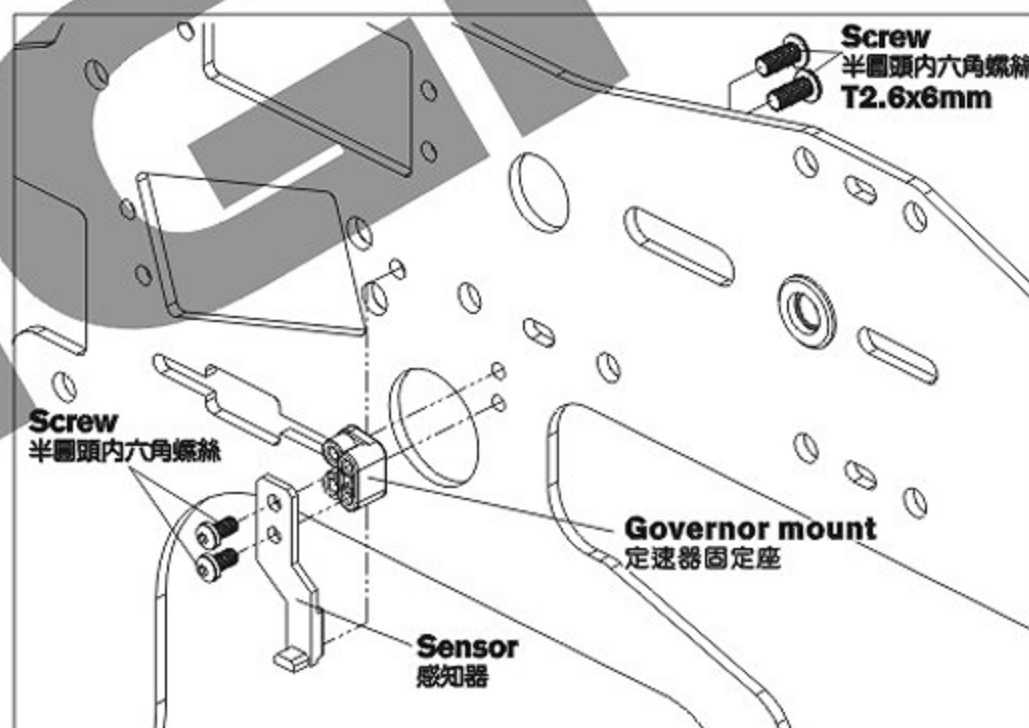

Fig. 2
2. See Fig. 2, install the sensor on the main frame, and check if any interference caused by the clutch bell.